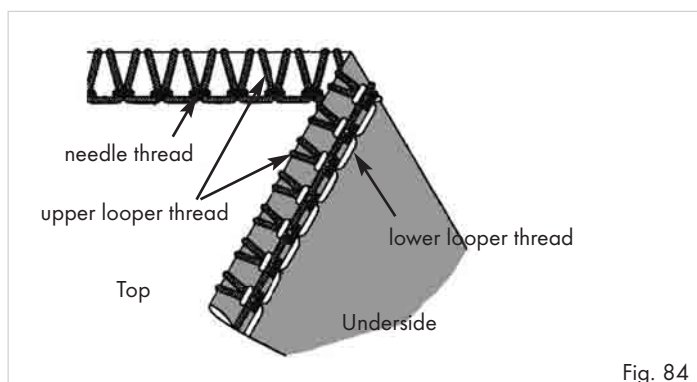

Fig. 84
Figure 84 shows you the stitch pattern for this stitch. Adjust the thread tension selectors ⑮ ⑯ ⑰ to the appropriate values (see table) then sew a test seam on the material being used.